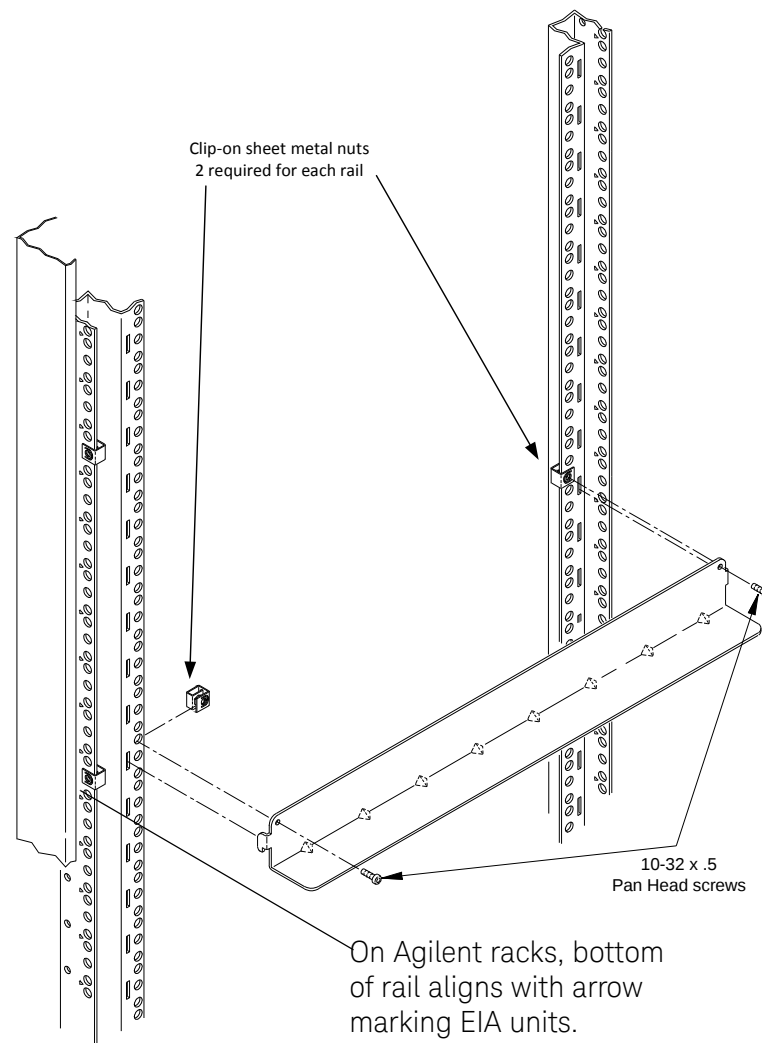

Figure 6 Attach the Support Rails to the Rack
- 4 Refer to Figure 6. Position the rack mounting support rails (E3664AC) on the rack's vertical columns where the chassis is to be mounted. Align the adapter holes over the "top" holes of the EIA rack units. On Agilent racks, the bottom of the rail should align with an arrow on the front of the rack mounting frame. Do not use the support rails supplied with the rack.
- 6** Attach the support rails to the rack's inside vertical columns. Use four clip-on sheet metal nuts (also called channel nuts) and the four 10-32 x 0.5 support rail-to-rack pan head screws as shown in Figure 6.